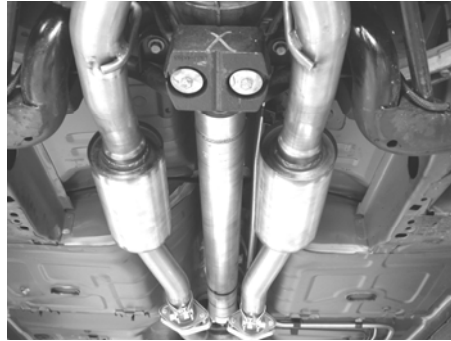

Figure 4
2. Place a clamp over the expanded end of the left and right muffler assemblies and place each one into position as shown in figure 4 installing the hangers into the rubber brackets. DO NOT tighten the clamps.